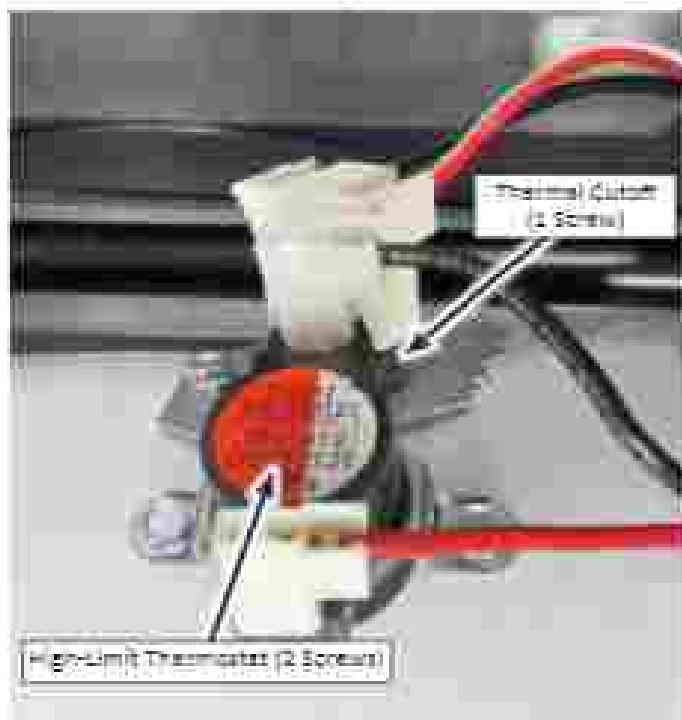

Figure 5 - Remove Thermostats
7. To remove the High-Limit Thermostat or the Thermal Cutoff (see Figure 5):
a) Disconnect the two (2) wire connectors from the component terminals.
b) Remove the two (2) screws from the High-Limit Thermostat, or the single screw from the Thermal Cutoff. Remove the component from the venturi.